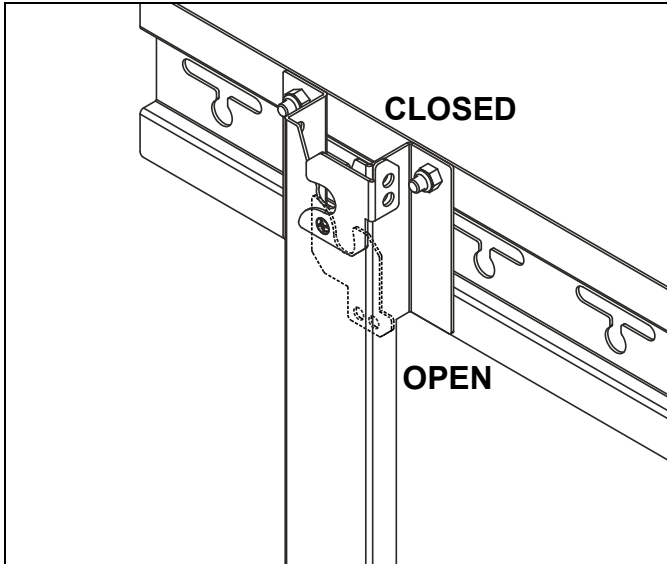

Figure 7
2. Move latching flags on mount to the OPEN position. (See Figure 7)
7. Move locking flags to CLOSED position and lock. (See Figure 7)